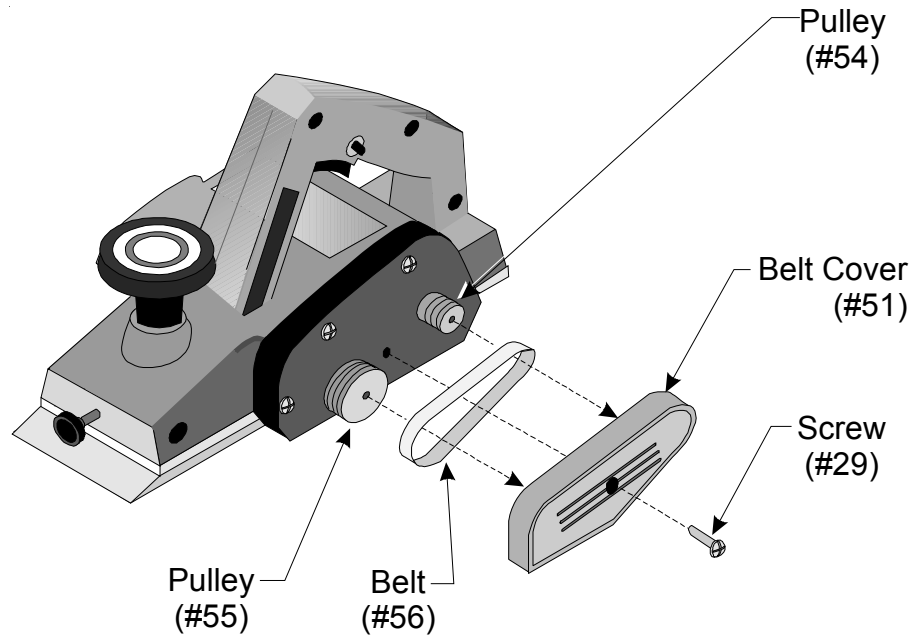

Figure 7 — Removing the Pulley
Step 1: Remove the SCREW (#29) and the BELT COVER (#57). (See figure 7.)